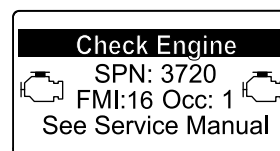

Figure 50
- Engine warning SPN 3720, FMI 16 (Figure 50)